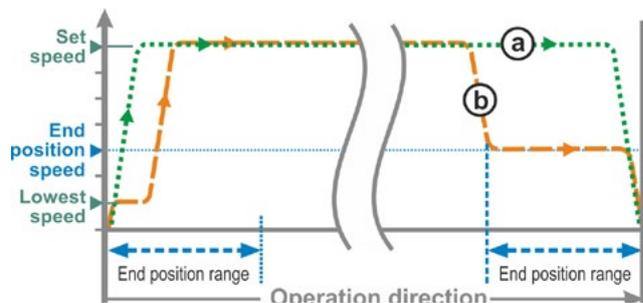

Fig. 3: End position speed 'Quick start/stop'
- For **travel-dependent** cut-off mode, the speed will be reduced shortly before reaching the end position so that the actuator comes to a standstill; refer to fig. 3, curve a.